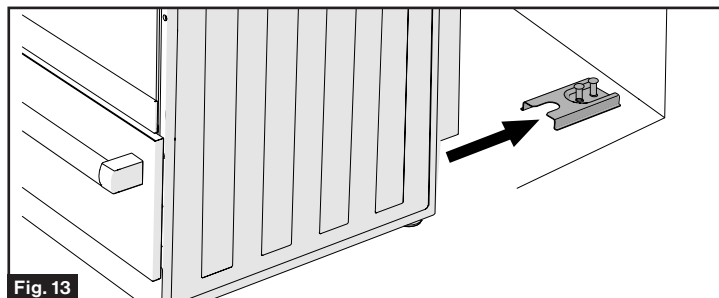
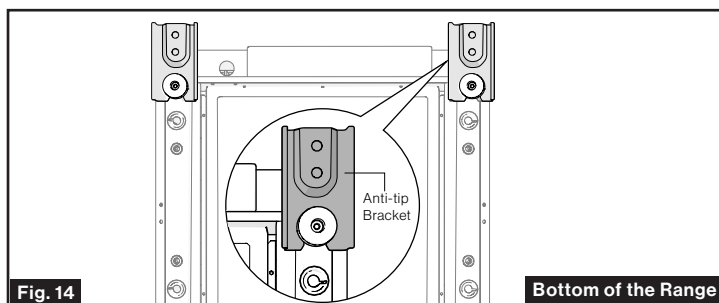

Fig. 13
Fig. 14
2. Slide the range into the cutout until the rear leg engaged into the pre-installed anti-tip bracket. Care should be taken to avoid rubbing and damaging the wire during moving. (Fig. 13 & Fig. 14)
- Visually check that the rear leg is engaged into the U-notch of the anti-tip bracket. See Fig 14.